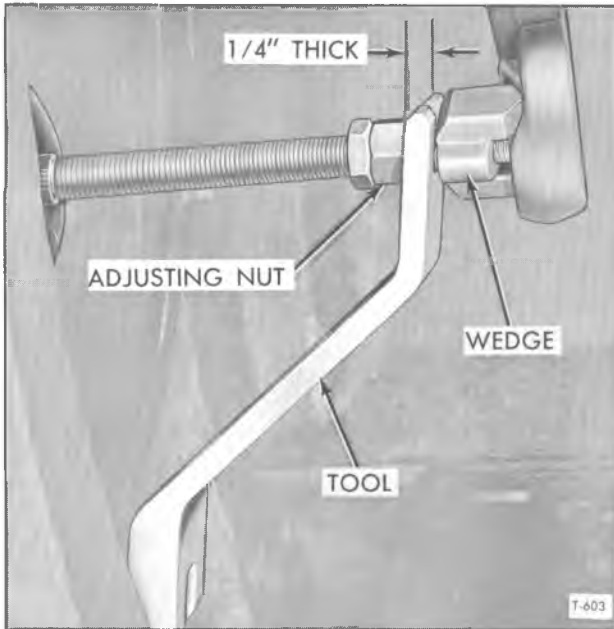

Figure 12—Checking Adjustment of Slave Cylinder Push Rod
2. With the push rod and piston seated in the slave cylinder, push clutch fork and wedge on push rod away from the slave cylinder. Insert smaller end of gauge on push rod between the adjusting nut and wedge (fig. 12). If the tool will not go between the nut and wedge the push rod needs to be adjusted. If the small tool end fits between the adjusting nut and wedge, the rod does not require adjustment.